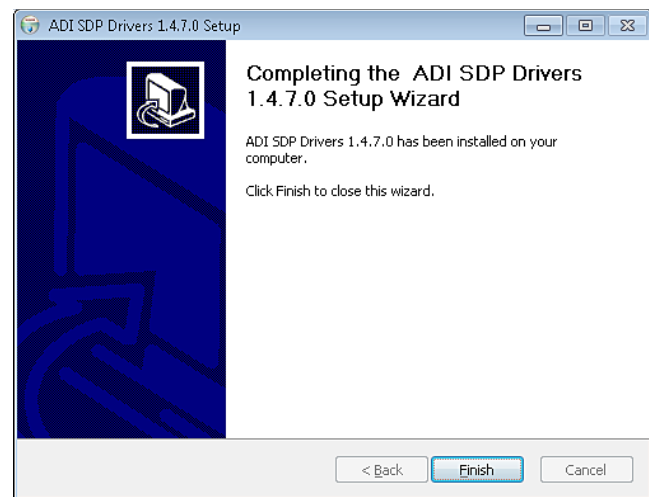

Figure 13. Completing the Drivers Setup Wizard
4. To complete the driver installation, click **Finish**, which closes the installation wizard (see Figure 13).